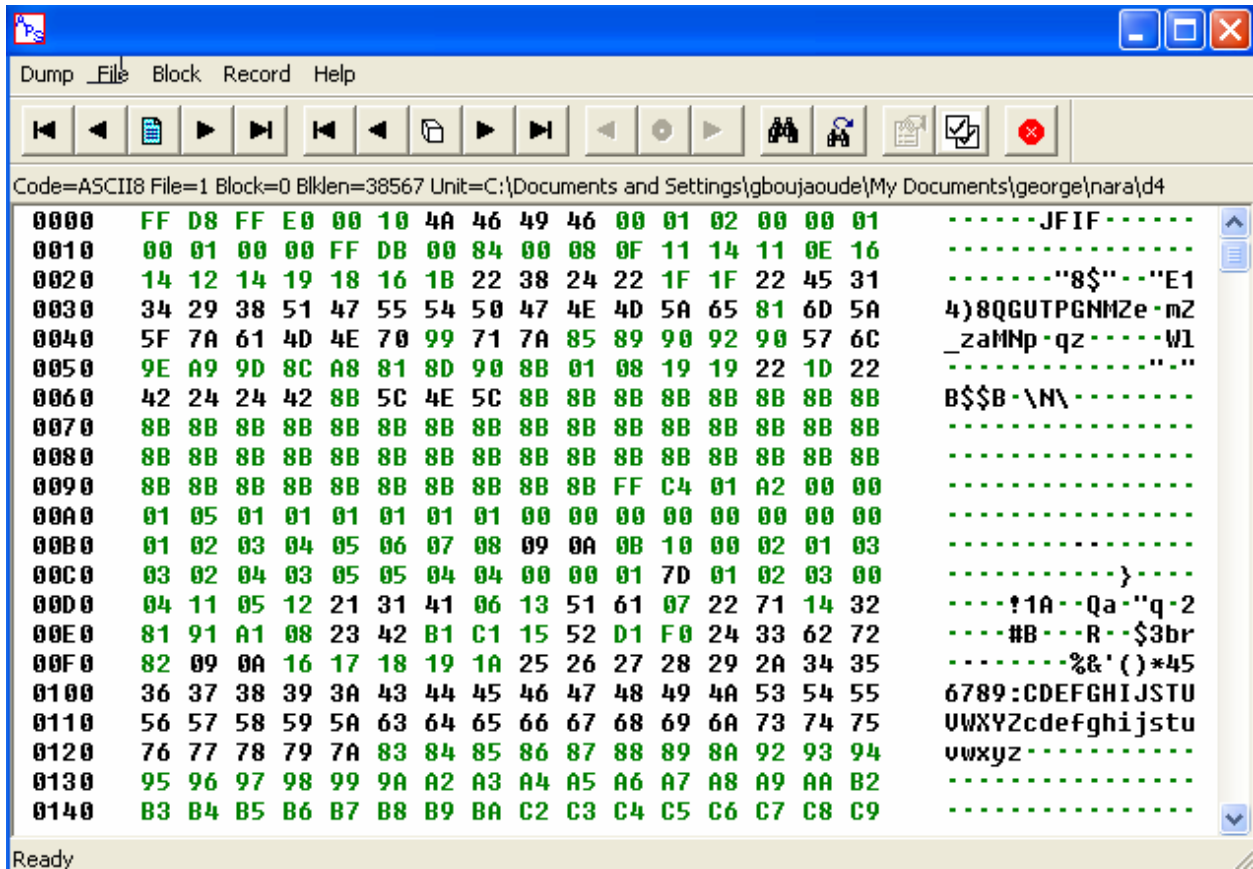

Figure 90: Tape Merge View Option
7. View tape: To view the contents of an input tape unit, press the button labeled View that is on the row of the unit to be viewed. APS will open a tape dump window allowing the user to view and reposition that tape unit. This window is shown in Figure 90: Tape Merge View Option.